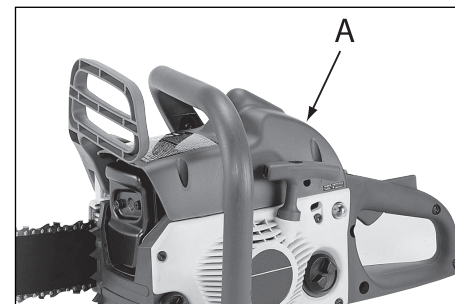

Fig. 18A
2. Remove the top cover (A) by loosening the cover retaining screws. Cover will lift off. (Fig. 18A)